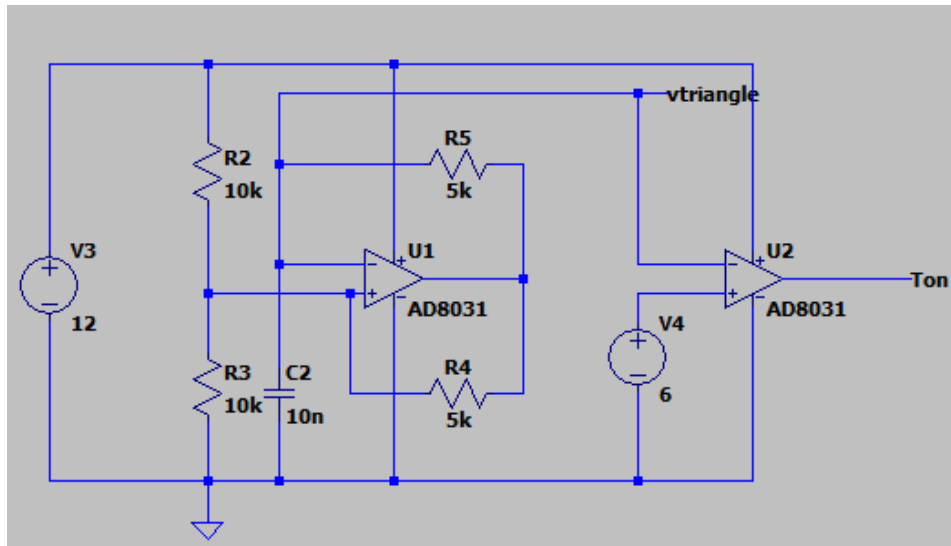

Figure 8: LTSpice circuit, PWM-part
The circuit to be simulated is shown in Figures 8 and 9.
- What is duty cycle, D, when the control voltage is 2, 4, 6, 8 and 10V? (V4 in Figure 8)